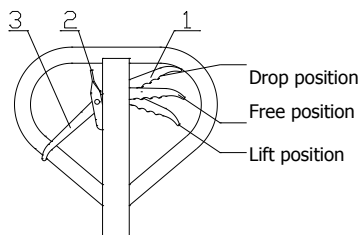

Fig. 5
- 4.1 After the truck is assembled, try to rock the hand grip and operate different positions of control handle knob 1 to examine the lifting, free position and dropping and check that whether the different positions are normal or not. See fig 5.
5.4 See fig 5, when hand knob 1 is placed on the free position, the truck will travel. At this time, if you rock the hand grip, the truck will neither lift nor drop. Then, you can use the truck to move the cargo.
5.5 See fig 5, when the hand knob 1 is placed on the drop position, truck forks will drop. At this time, the truck forks will drop automatically.
5.6 See fig 5, when the hand knob 3 is placed on, the truck will be in a state of free walking.
5.7 See fig 5, when the hand knob 3 is placed above, the truck will be in a state of brake.
5.8 See fig 5, hand knob 2 is used for release brake.